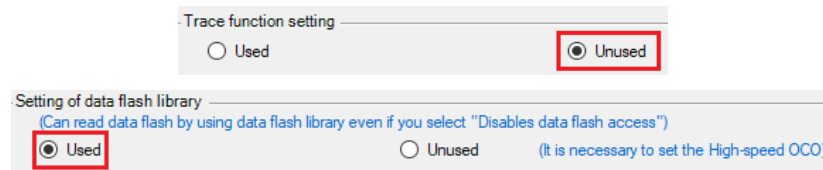

Figure 6-8 Unuse Trace and use Data Flash library in Code Generator
- In [On-chip debug setting] page of [Clock Generator], select Trace function as unused, then select Data flash library as used in [Data flash] page of [Clock Generator] (refer to Figure 6-8).